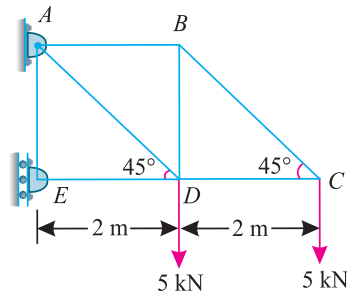

Fig. 13.67.
2. A cantilever braced truss supported on rollers at *E* and hinged at *A* is loaded as shown in Fig 13.67. Determine graphically or otherwise, the forces in the members of the truss, also determine the reactions at *A* and *E*.